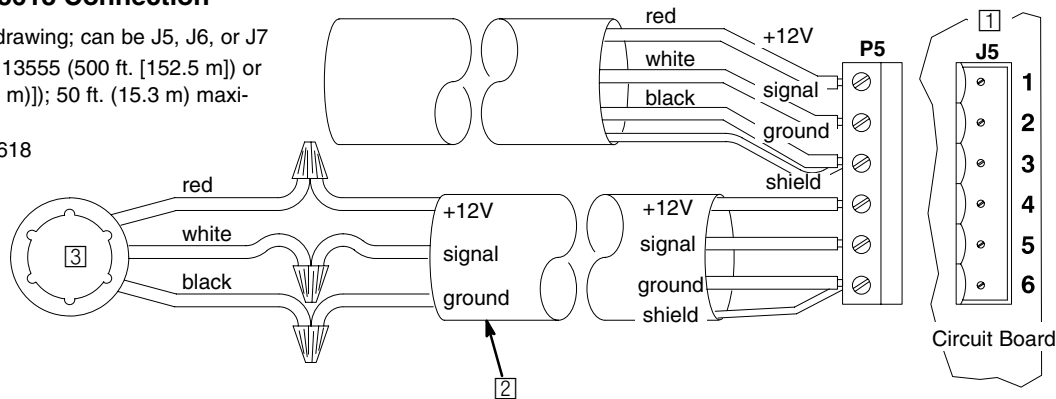

Fig. 7
- Connect an oil meter as shown in Fig. 7.